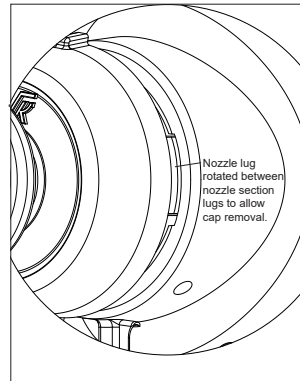

Fig. 6C
1. Insert the greased cap/nozzle assembly into the nozzle section outlet until the nozzle lugs are in line with the nozzle section lugs as shown in fig. 6C.